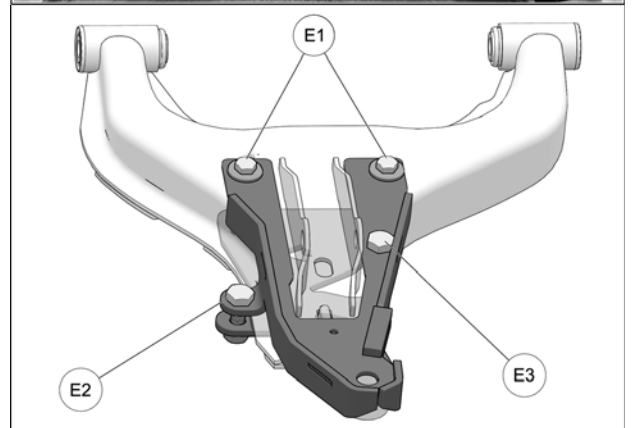

Fig. 21
9. Tighten Ball Joint nut (1); torque as per manufacturer's specification. Torque M10 bolts (E3-E2) to 50 N-m [37 lb-ft] and M8 bolts (E1) to 25 N-m [18 lb-ft]. See Fig. 21.